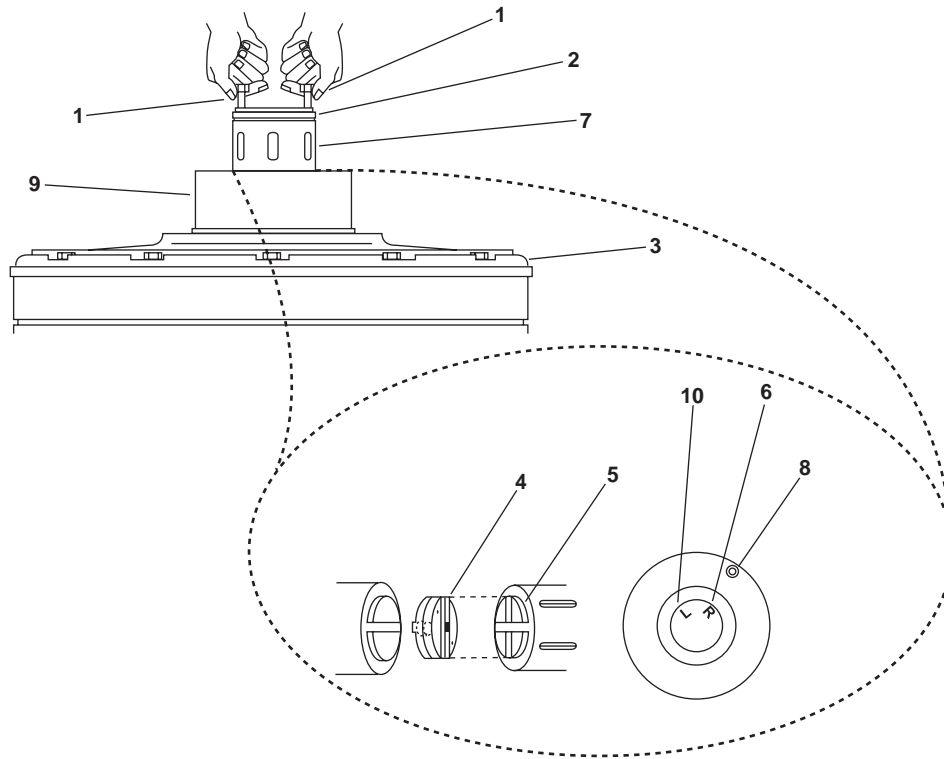

Figure 5. Hydraulic Motor with Distributor
1. Remove the two bolts (figure 5, item 1) from the end cover (figure 5, item 2) of the hydraulic motor (figure 5, item 3).
2. Remove the end cover (figure 5, item 2) from the hydraulic motor (figure 5, item 3).
3. Remove the safety coupling (figure 5, item 4) from the hydraulic motor (figure 5, item 3)
4. For right hand rotation of the hydraulic motor (figure 5, item 3), turn the rotation key slot (figure 5, item 5) until the stamped letter R (figure 5, item 6) in the distributor (figure 5, item 7) lines up with the zero (figure 5, item 8) on the motor housing (figure 5, item 9).
5. For left hand rotation of the hydraulic motor (figure 5, item 3), turn the rotation key slot (figure 5, item 5) until the stamped letter L (figure 5, item 10) in the distributor (figure 5, item 7) lines up with the zero (figure 5, item 8) on the motor housing (figure 5, item 9).
6. Install the safety coupling (figure 5, item 4) in the hydraulic motor (figure 5, item 3).
7. Install the end cover (figure 5, item 2) on the hydraulic motor (figure 5, item 3).
8. Install the two bolts (figure 5, item 1) in the end cover (figure 5, item 2).